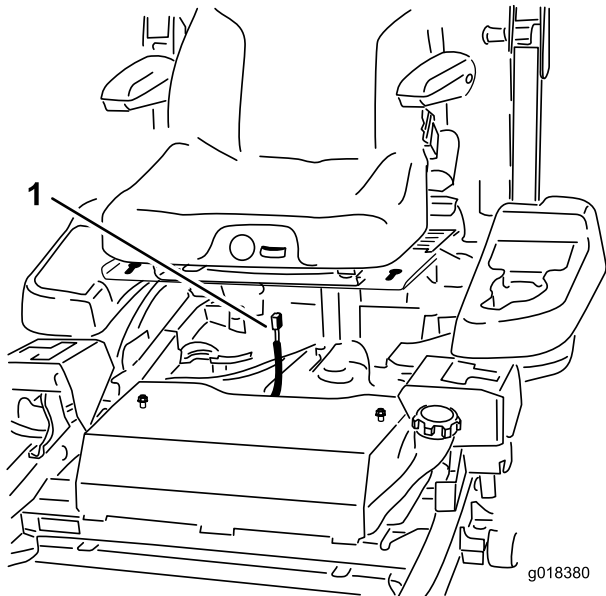

Figure 63
- Unplug the harness connector from the seat switch located under the seat (Figure 63).